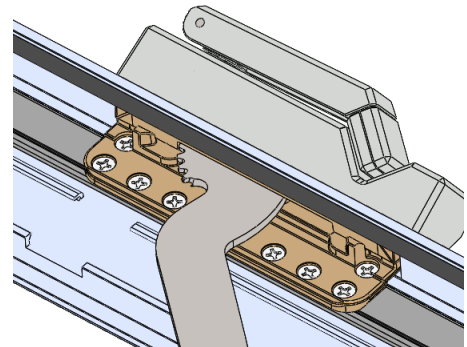

Figure E3:
3. Remove the (8) Philips screws from the operator, (Figure E3). Additional opening/closing of the vent may be required to access the screws.